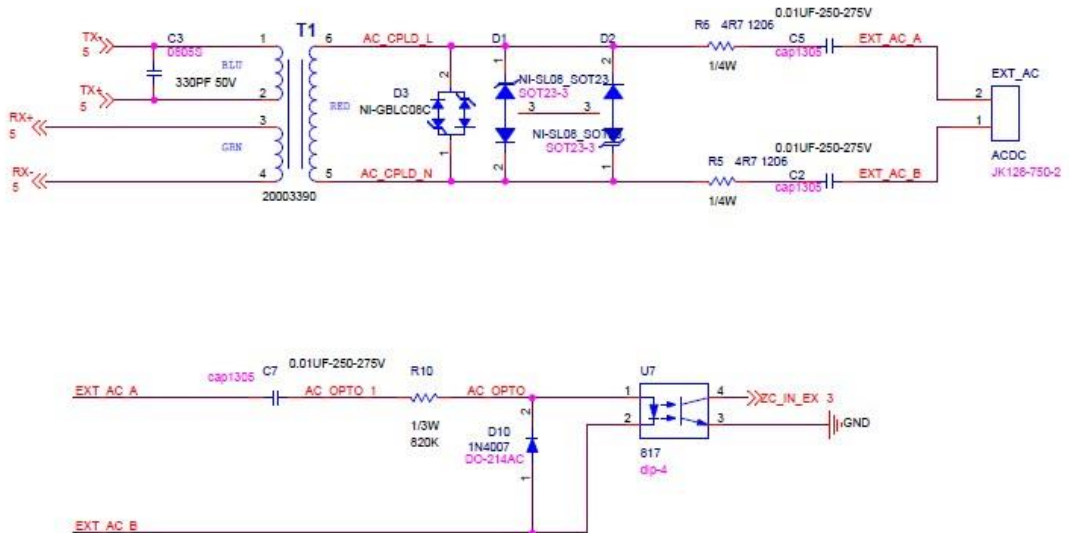

Figure 7 Signal Tx and Rx
- 1) The connector between mother board and LX200V20 module, like Figure 7 as below:
3) Signal Tx and Rx circuit, like Figure 7 as below: